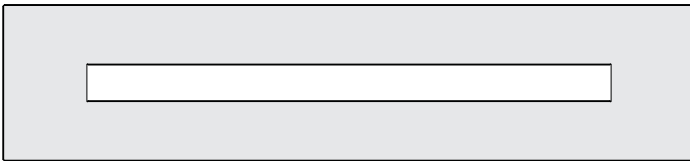

Figure 4
1. Apply the crushed glass to the shaded area only. **See Figure 4.** Use enough to cover the floor of the fireplace, but do not allow the media to reach higher than the flange surrounding the burner. Never place decorative media inside the glass panel surrounding the burner itself. This fireplace uses crushed glass. Accent glass droplets (1/2 inch) or glass drops (1 inch), and ceramic fiber logs, rocks and pebbles may be added. Mix colors and glass types, but do not exceed the recommended amount of decorative media.